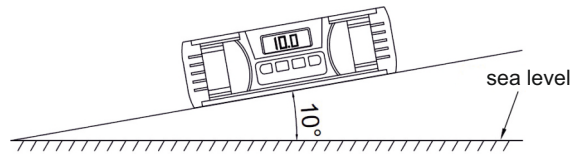

Fig.4
- » Place the instrument on the surface to be measured. The reading shows the level of the surface (Fig. 4).